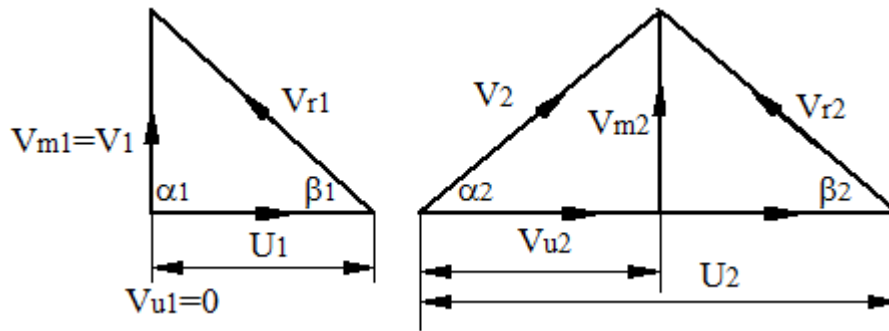

Fig. 3.20 Velocity diagram for centrifugal pumps and compressor with  $V_{u1} = 0$
**Answer:** The velocity diagram for centrifugal pumps and compressor with  $V_{u1} = 0$  is as shown in figure 3.20. Usually in a radial flow turbomachines the working fluid is either water or oil. Whenever, the energy transfer occurs in these machines, then pressure energy or potential energy of the working fluid changes.